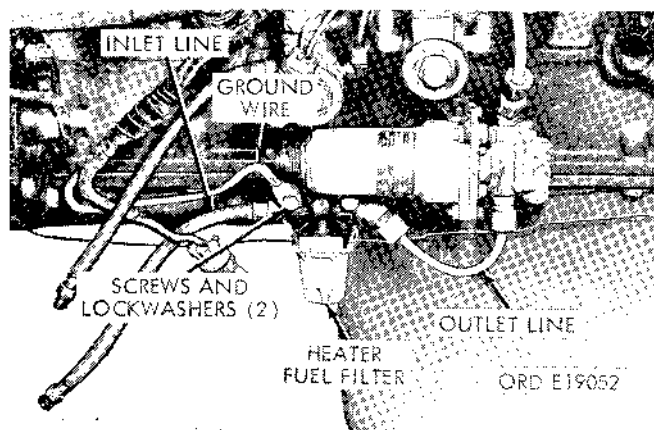

Figure 2-110. Disconnecting manifold heater fuel filter lines.
(1) Disconnect the heater fuel filter inlet and outlet lines (fig. 2-110).
(2) Connect the filter inlet and outlet lines to the filter (fig. 2-110).